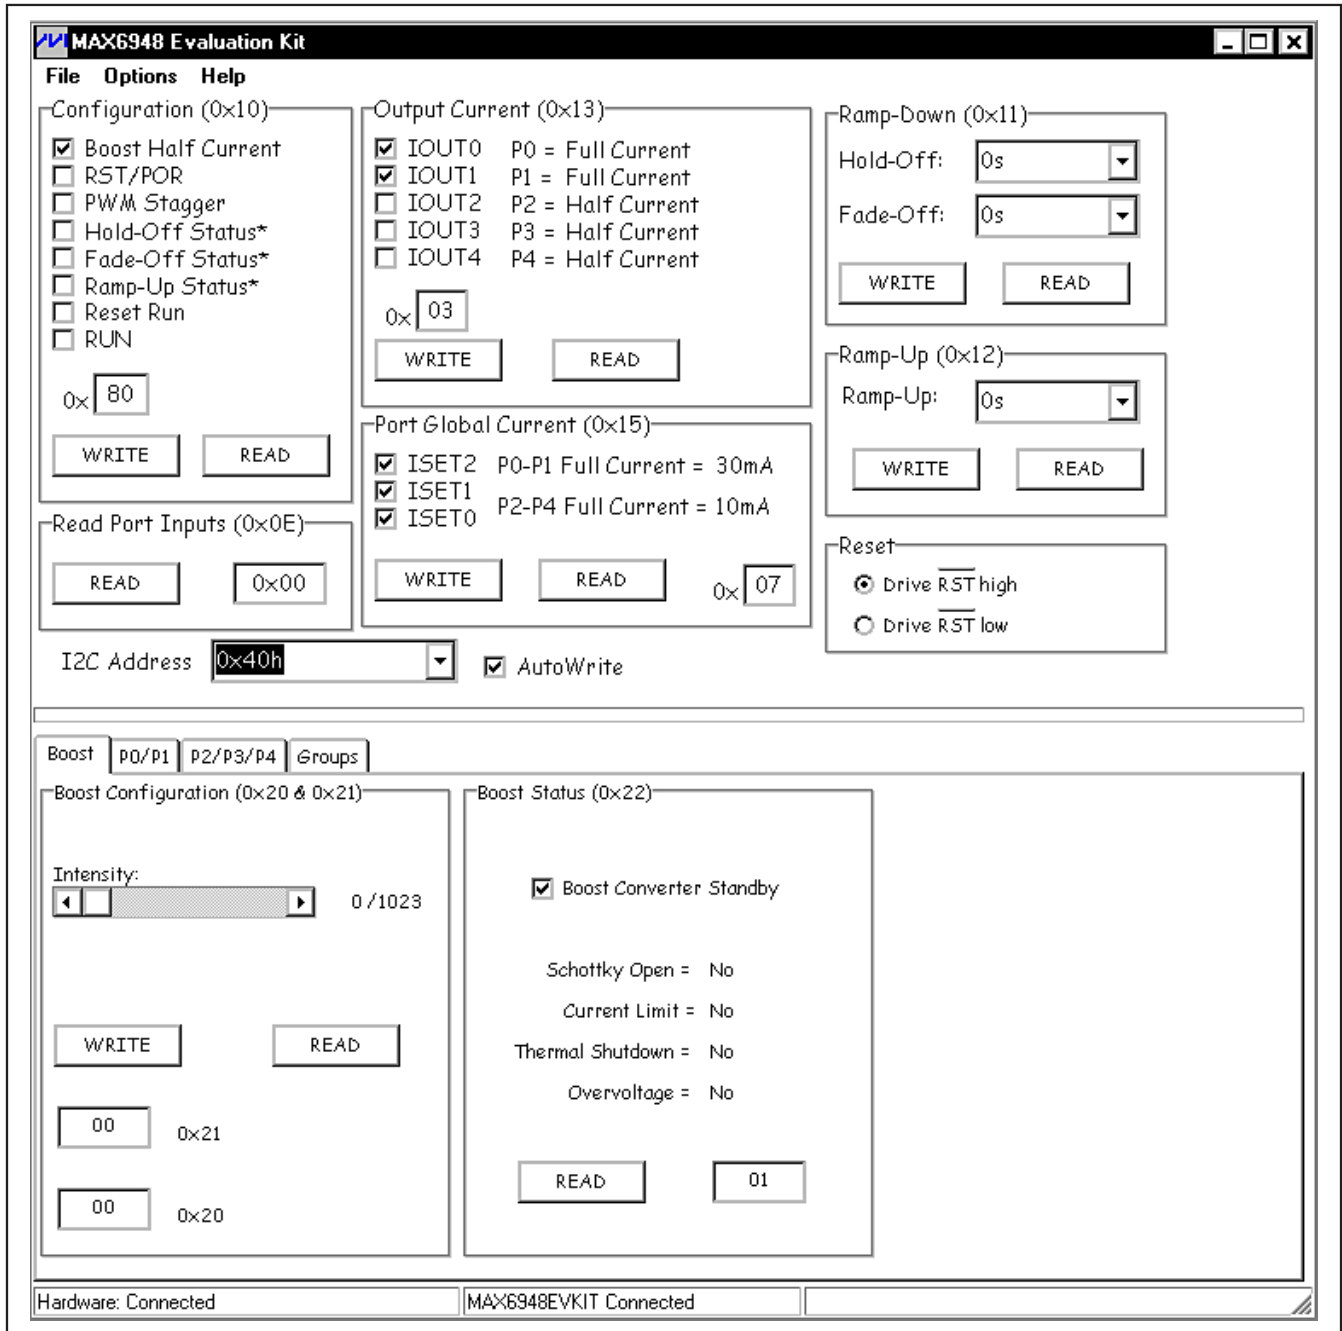

Figure 1. MAX6948 EV Kit Software Main Window (P0/P1 Tab)
- 8) Start the MAX6948 EV kit software by opening its icon in the **Start | Programs** menu. The EV kit software main window appears, as shown in Figure 1.
The main window of the evaluation kit is shown in Figure 1.
P0 and P1 ports have a maximum sink current of 30mA while the P2, P3, and P4 ports have a maximum sink current of 10mA. The **Port Global Current (0x15)** group box (Figure 1) selects the maximum current for the ports and the **Output Current (0x13)** group box selects whether the maximum current for each individual port is full current or half current.
The reset signal can be driven high or low in the **Reset** group box (Figure 1). The functionality of $\overline{\text{RST}}$ depends on whether the **Reset Run** or **RST/POR** checkbox in the **Configuration (0x10)** group box is checked. Driving $\overline{\text{RST}}$ low disables I²C communication to read or write to the MAX6948 registers. The previously programmed settings are stored internally.